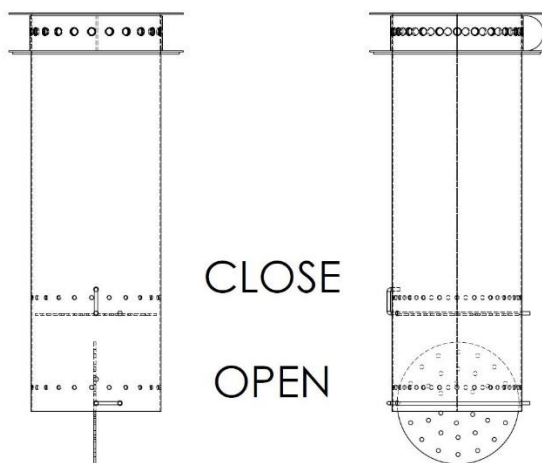

Fig. 2.1
ATTENTION!!!: In the PLUS models the capacity of the hearth is adjustable (fig. 2.1- 2.3). The adjustment is made with a handle before the inner hearth is put into the hearth shield (OP).